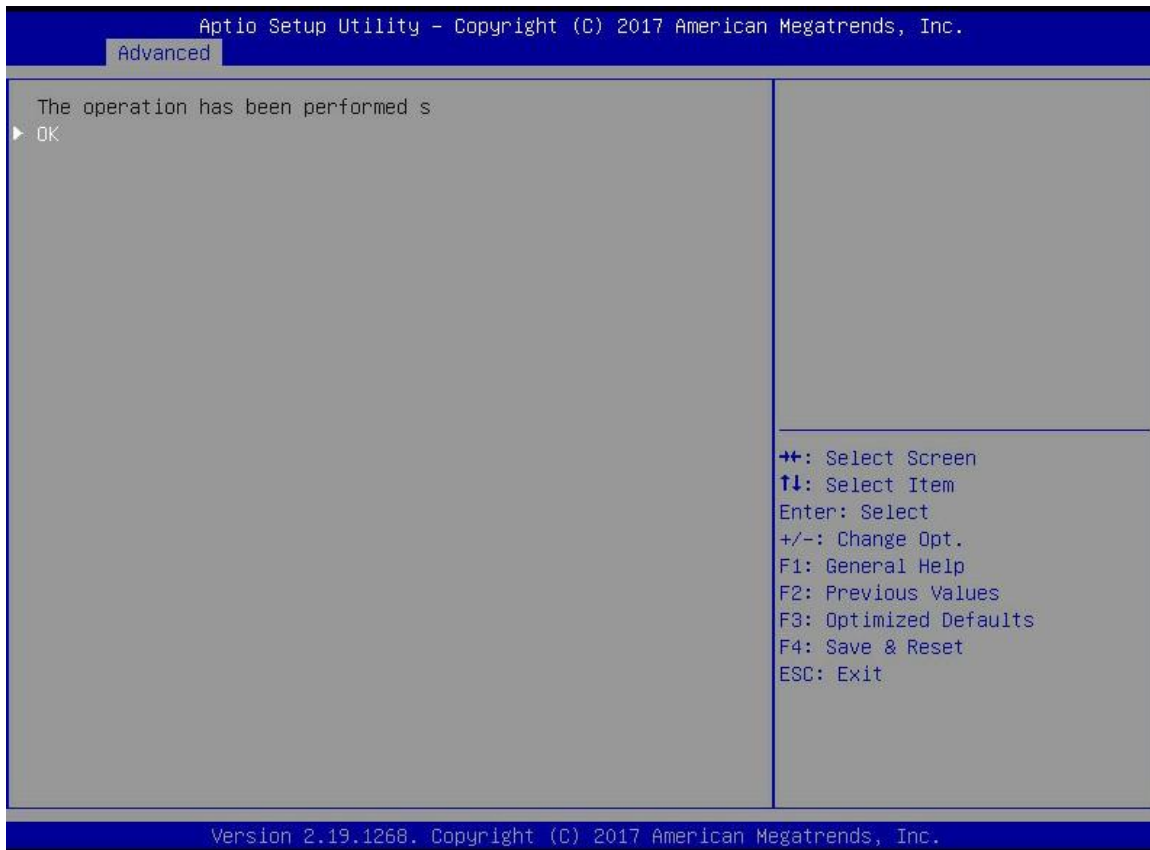

Figure 6-24
- f) Enter the interface shown in Figure 6-24 to complete the configuration of global hot spare.